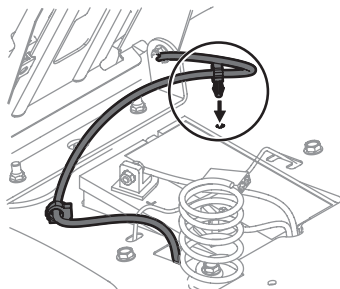

Figure 4
5. Using the harness clip attached to the harness, secure the excess wire to the fender by snapping the harness clip in place as shown in Figure 4.